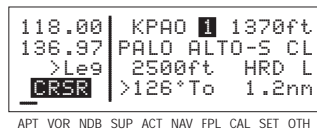

Figure 3-87
- Rotate the right outer knob clockwise to position the cursor over “1” (figure 3-87). As long as the cursor is left in this position, this page will update so that the nearest airport is always shown as the flight progresses.